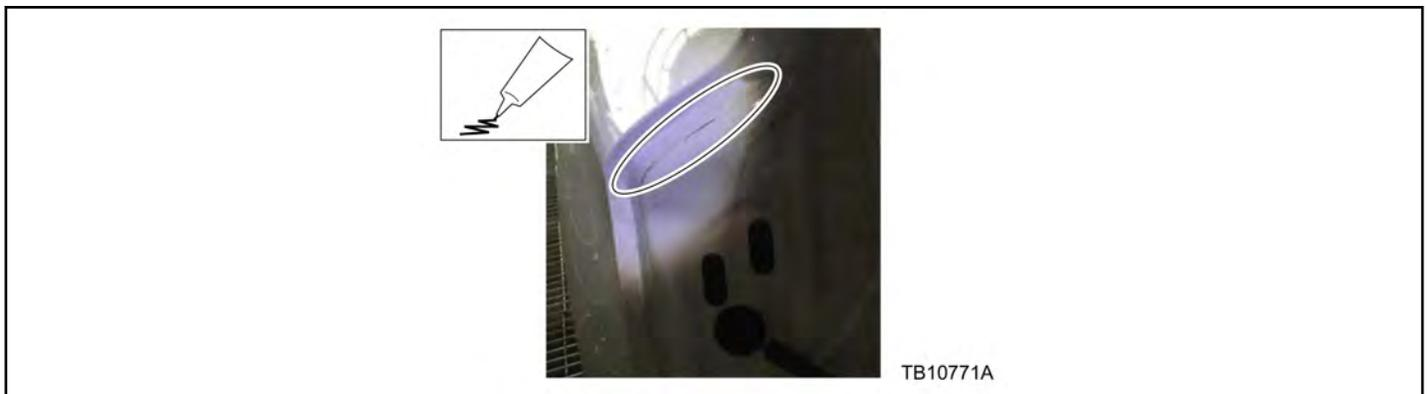

Figure 7 - Article 15-0150
- c. Pull out to dislodge the two (2) clips in the upper part of the lower section of the moulding.
14. Apply 3M™ Flexiclear™ Body Seam Sealer or equivalent to the D-pillar joint seams. (Figure 7)